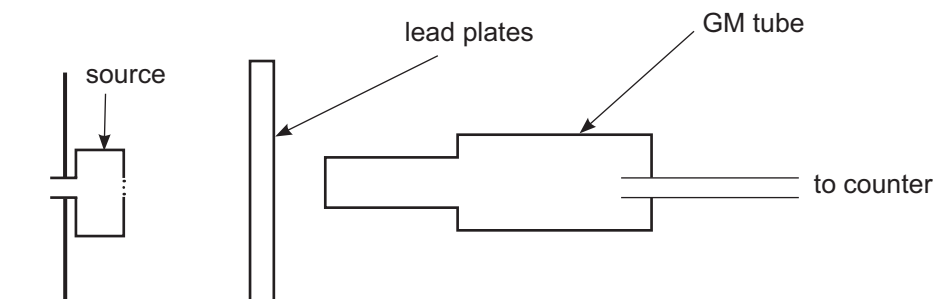

Fig. 4.1
- 4 A radioactive source was placed a fixed distance from a Geiger-Muller tube and the count rate was measured three times. A lead plate of thickness 5 mm was placed between the source and the counter as illustrated in **Fig. 4.1** and the count rate per minute was once again measured three times. The experiment was repeated for a maximum of 4 lead plates, each of thickness 5 mm.